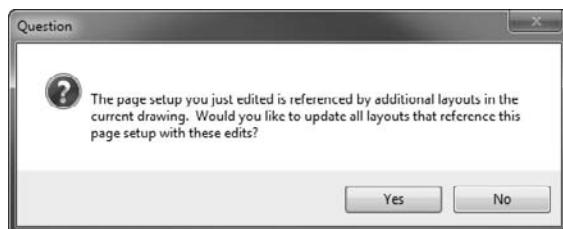

FIGURE 15.19 The Question dialog box opens when a page setup is applied to multiple layouts.
7. Because you just modified a page setup that was assigned to a layout, the Question dialog box shown in Figure 15.19 opens, asking you how to apply the changes you just made. Choose Yes to apply the changes to all of the layouts that reference the DWFX-8H11 page setup.